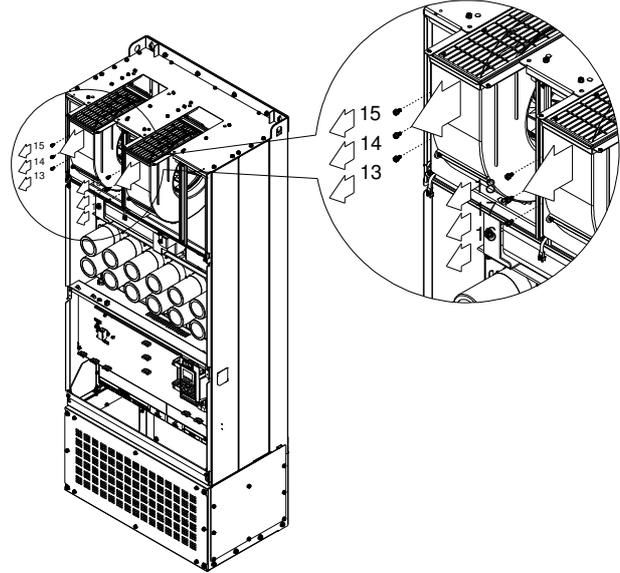

Figure 4
(4) Loosen the screw and remove the fan. Make sure fan power is properly disconnected before removal. Screw torque: 24~26kg-cm (20.8~22.6lb-in). (figure 4)